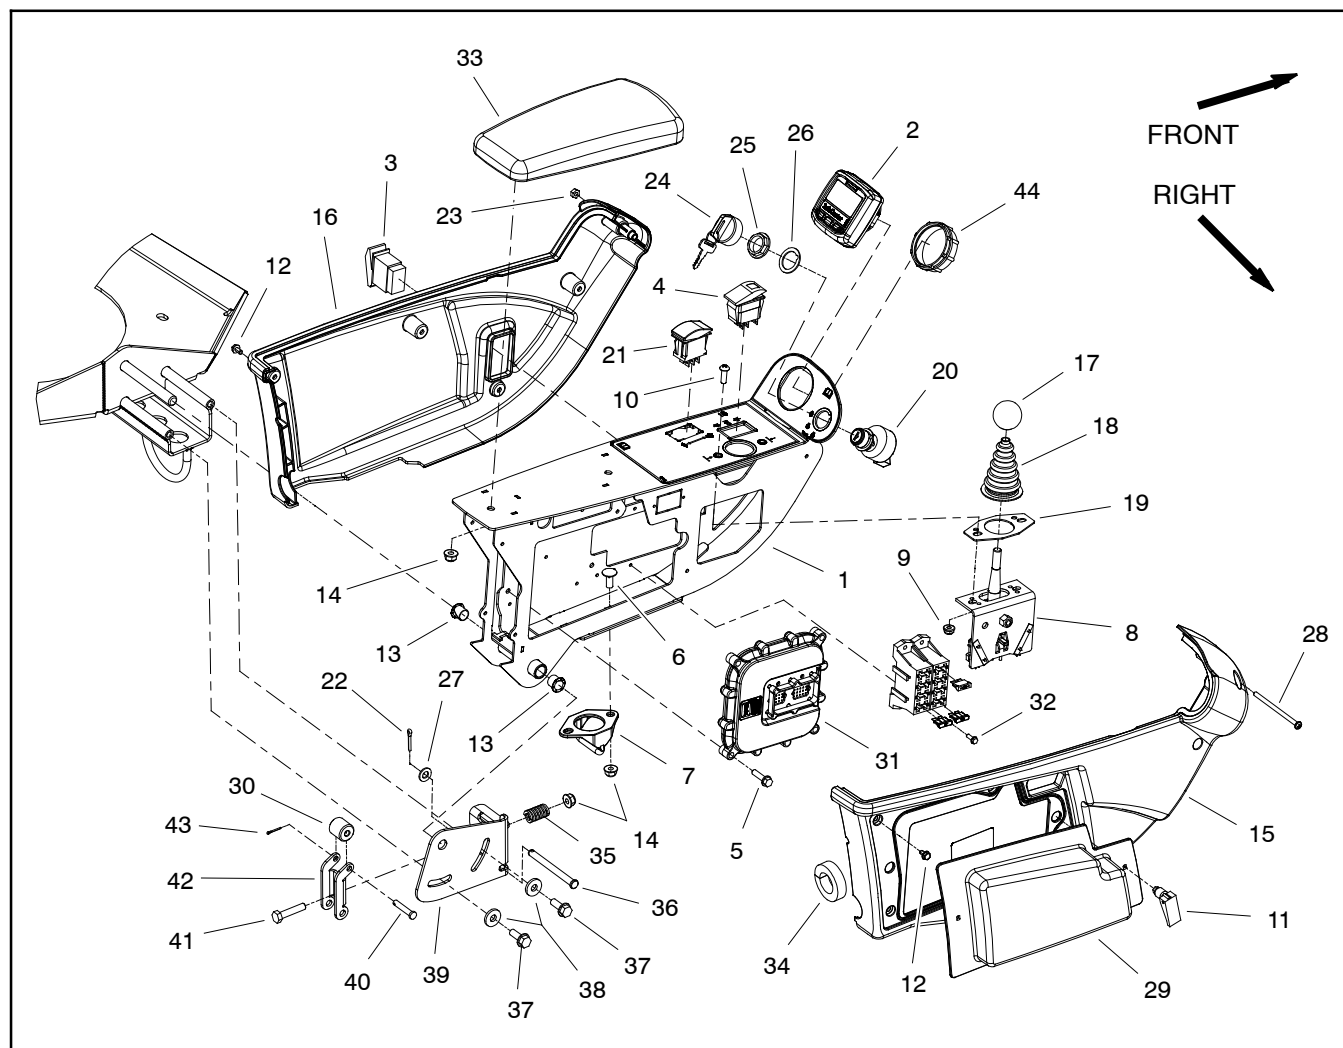

Figure 13
Disassembly (Fig. 13)
3. At front of control arm, remove screw (item 28) and lock nut (item 23) that secure control arm covers to each other.
4. Remove five (5) washer head screws (item 12) that secure each cover to control arm.
5. Remove control arm covers from machine. As LH control arm cover (item 16) is removed from control arm, unplug wire harness connector from headlight switch.
6. Remove electrical components from control arm as needed using Figure 13 as a guide.
Assembly (Fig. 13)
1. Install all removed electrical components to control arm using Figure 13 as a guide.